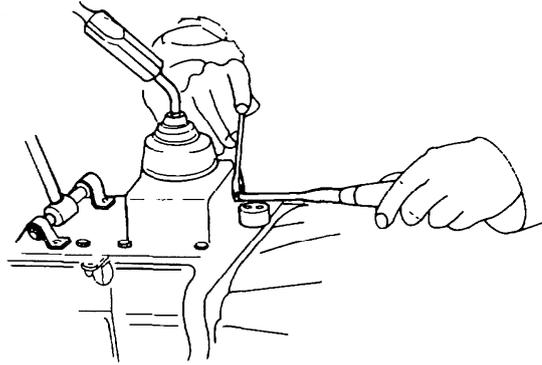

Figure 69 Reverse Stop Screw Adjustment
- i. Adjust the reverse stop screw to lightly contact the selector (Figure 69).